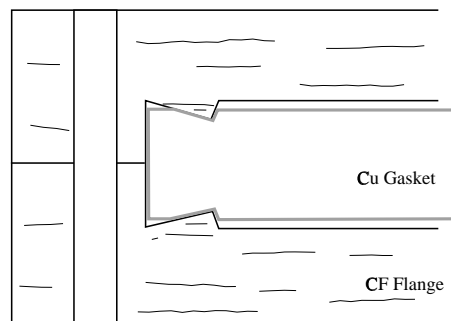

Fig. 2 Possible virtual leaks at the knife edge of a Conflat flange
- Rolled instead of forged flange material can lead to virtual leaks due to silicate enclosures as shown in Fig. 2.